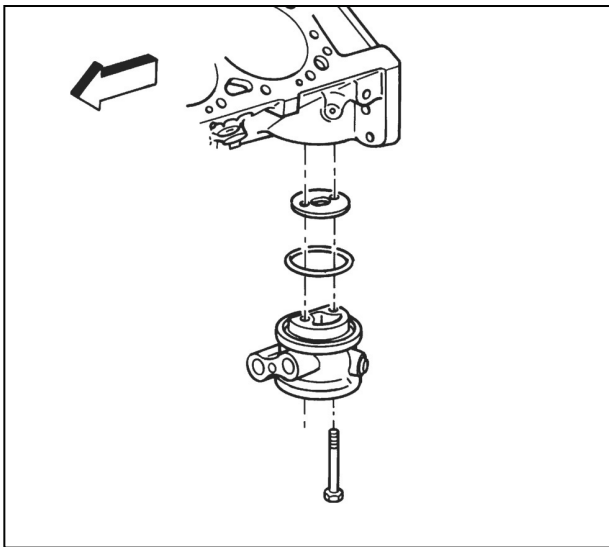

Figure 12-85 Oil Filter Adapter Installation With Oil Cooler
8. Oil filter adapter bolts (figure 12-85).